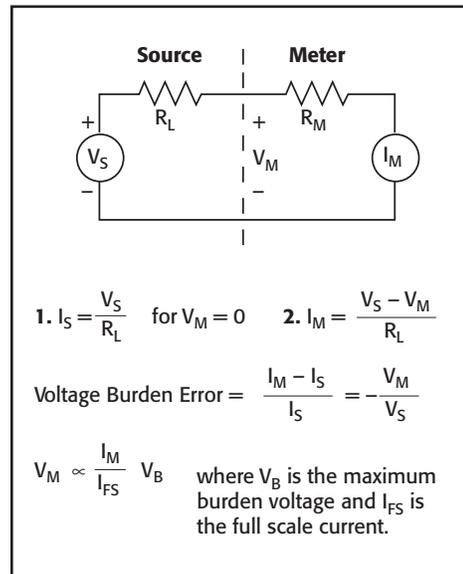

Figure 4: Voltage Burden Error
**Voltage burden error (Figure 4)** is the difference between the expected current through the load ( $R_L$ ) and the measured current ( $I_M$ ) caused by the finite voltage drop of the measuring instrument.